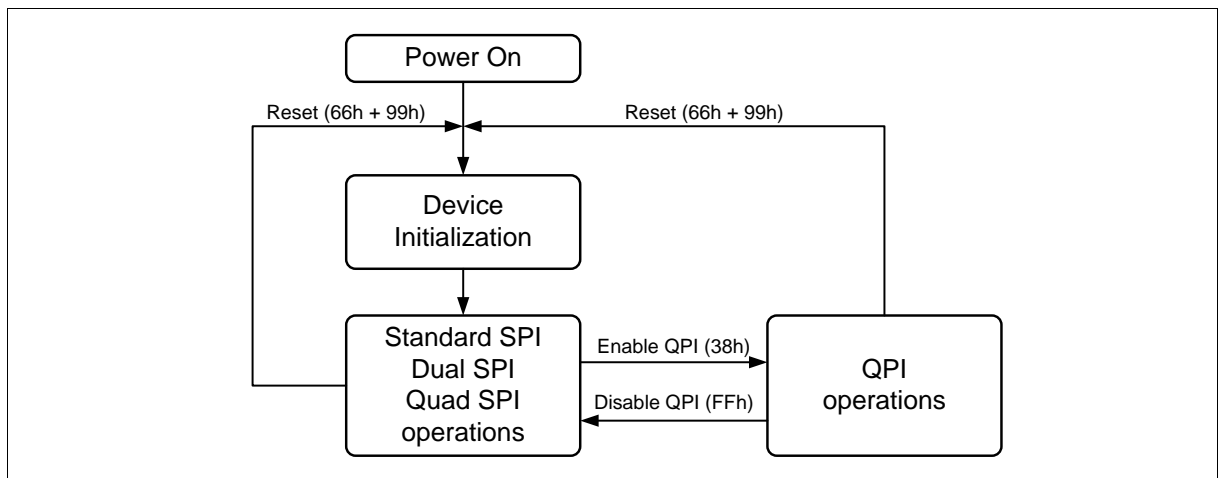

Figure 2 FM25Q08B Serial Flash Memory Operation Diagram
The FM25Q08B supports Quad Peripheral Interface (QPI) operations only when the device is switched from Standard/Dual/Quad SPI mode to QPI mode using the “Enable QPI (38h)” instruction. The typical SPI protocol requires that the byte-long instruction code being shifted into the device only via DI pin in eight serial clocks. The QPI mode utilizes all four DQ pins to input the instruction code, thus only two serial clocks are required. This can significantly reduce the SPI instruction overhead and improve system performance in an XIP environment. Standard/Dual/Quad SPI mode and QPI mode are exclusive. Only one mode can be active at any given time. “Enable QPI (38h)” and “Disable QPI (FFh)” instructions are used to switch between these two modes. Upon power-up or after a software reset using “Reset (99h)” instruction, the default state of the device is Standard/Dual/Quad SPI mode. To enable QPI mode, the non-volatile Quad Enable bit (QE) in Status Register-2 is required to be set. When using QPI instructions, the DI and DO pins become bidirectional  $DQ_0$  and  $DQ_1$ , and the WP# and HOLD# pins become  $DQ_2$  and  $DQ_3$  respectively. See Figure 2 for the device operation modes.